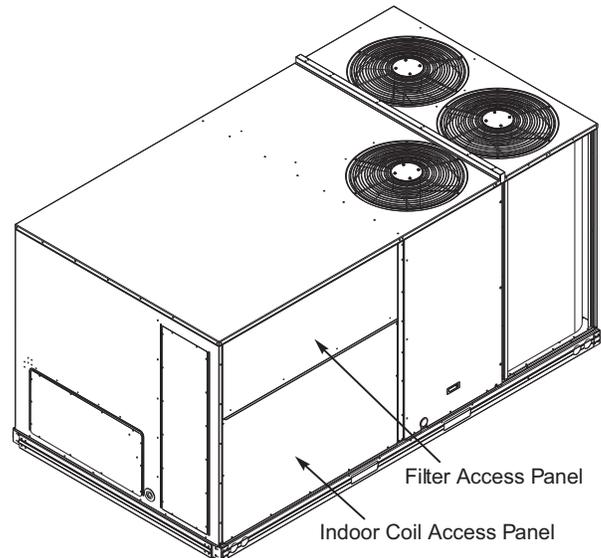

Fig. 18 – Typical Access Panel Locations
1. To gain access to the hood, remove the filter access panel. See Fig. 18.